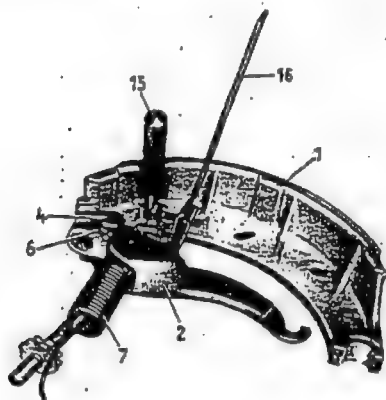

Fig. 42-9/10
9. Attach the brake lever (2) with the push rod (3) and the return springs (6) and (7) to the rear brake shoe. Make sure that the return spring (6) is correctly positioned (see Figs. 42-9/9 and 42-9/10).
10. Attach the return spring (7) to the brake shoe (1) and lock by means of the retaining pin (15) (Fig. 42-9/10).